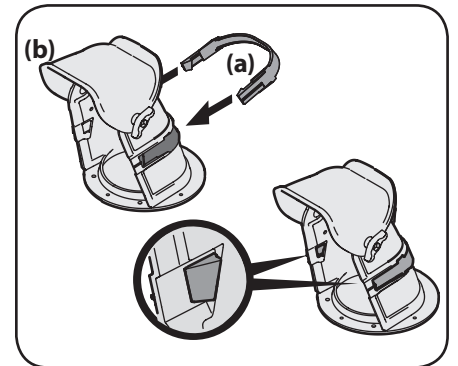

Figure 2-9
- If not already done, install the chute plug (a) onto the chute (b) as shown in Figure 2-9. Be certain that the plug is aligned in the channel on the chute and that the tabs snap into place.